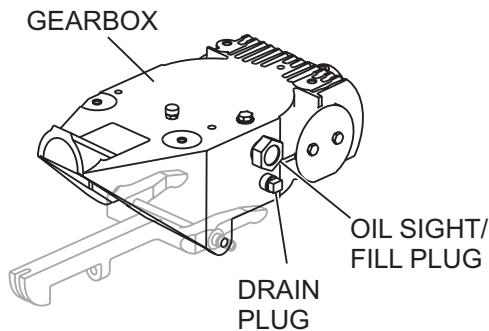

Figure 14. Gearbox
1. Determine if the **gearbox** oil is low by viewing the oil sight glass/fill plug located on the side of the gearbox. This plug will be marked by the "**check**" decal. See (Figure 14). The correct level of the lubrication oil should be to the bottom of the sight glass/fill plug.